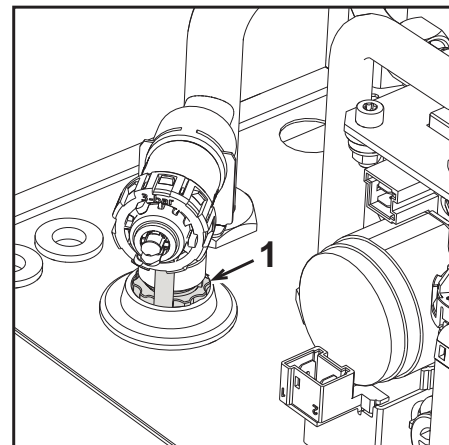

fig. 17- Safety valve with drain faucet
To drain the system, turn the ring nut (ref. 1 - fig. 17) counter-clockwise to open the faucet. Do not use any tools; use hands only.